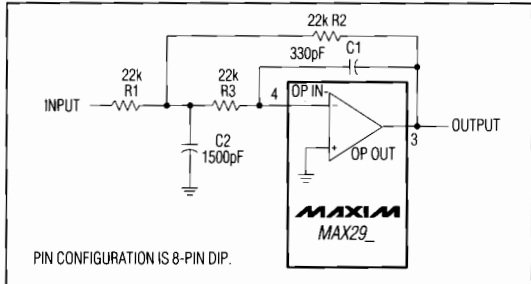

Figure 4. Uncommitted Op Amp Configured as a 2nd-Order Butterworth Lowpass Filter ( $F_o = 10\text{kHz}$ )
The uncommitted op amp has its noninverting input connected to the GND pin, and can be used to build a 1st- or 2nd-order continuous-time lowpass filter. This filter is intended for anti-aliasing applications preceding the switched-capacitor filter, but it can be used as a post-filter to reduce clock noise. Figure 4 shows one of many filters that can be built with this op amp: a 2nd-order Butterworth filter with a 10kHz corner frequency and an input impedance greater than 22k $\Omega$ . Table 1 gives alternative component values for different corner frequencies of the same Butterworth filter.
Table 1. Component Values for Figure 4's Filter
As the passband ripple of the MAX293/MAX294/MAX297 elliptic filters is of the order of  $\pm 0.1\text{dB}$ , it is normally appropriate to keep the passband errors of any anti-aliasing filter at or below this level. This is achieved by choosing the corner frequency of Figure 4's Butterworth filter ( $f_{cB}$ ) to be higher than the corner frequency of the elliptic switched-capacitor filter ( $f_{cE}$ ) by a factor of 2.5 or more. A factor of 5 or more is recommended to avoid problems with component tolerances, i.e.  $f_{cB} > (5)f_{cE}$ .